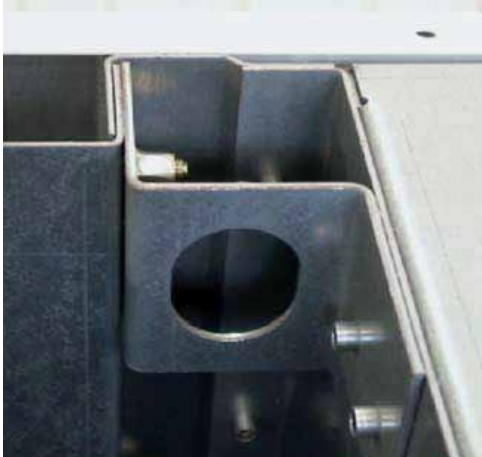
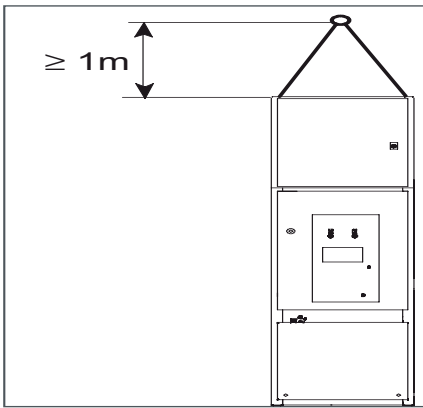

Fig. 5.1
Fig. 5.2
- Attach the crane straps in the four jack rings on top of the panel (Fig. 5.1). Make sure to leave a minimum height of 1 m (Fig. 5.2).